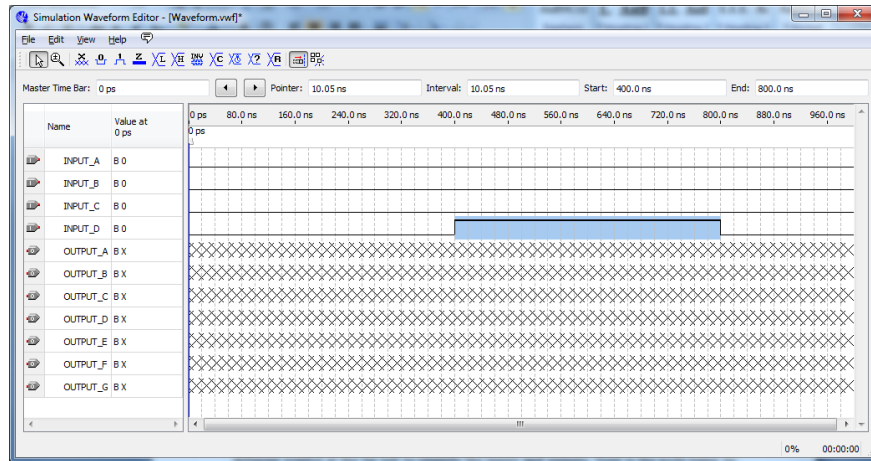

Figure 17 Input D set high
Input waveforms can be drawn in different ways. The most straightforward way is to indicate a specific time range and specify the value of a signal. To illustrate this approach, click the mouse on the **input_D** waveform near the 400 ns point and then drag the mouse to the 800 ns point. The selected time interval will be highlighted in blue. Change the value of the waveform to 1 by clicking on the Forcing High (1) icon (Figure 17).